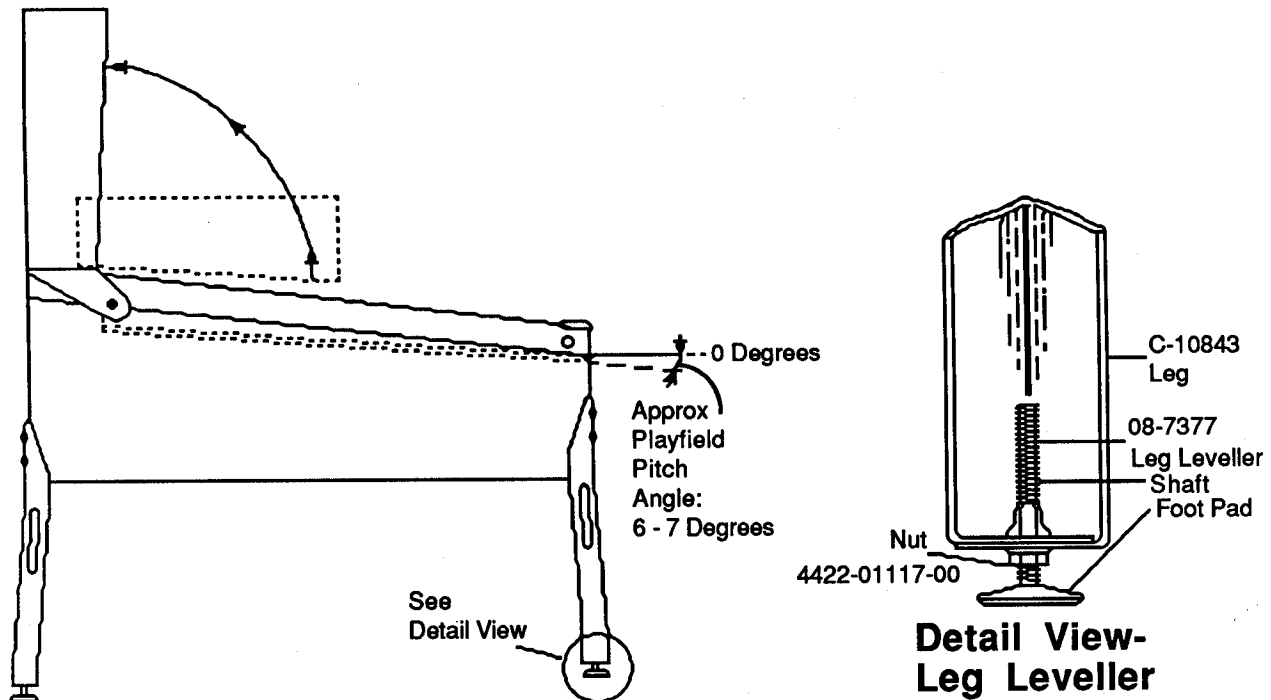

Figure 3. Pinball Assembly, Playfield Pitch Angle, and Leg Leveller Details.
3. Attach the front legs (after installing leg levellers), using leg bolts. See Figure 3 for details.
6. Adjust the leg levellers for proper playfield level (side-to-side) *and* playfield pitch angle (incline) of approximately 6 degrees. (Again, it is recommended that these measurements be made *ON* the playfield, not the cabinet nor the playfield cover glass.) Tighten the nut on each leg leveller shaft to maintain this setting, as shown in Figure 3.